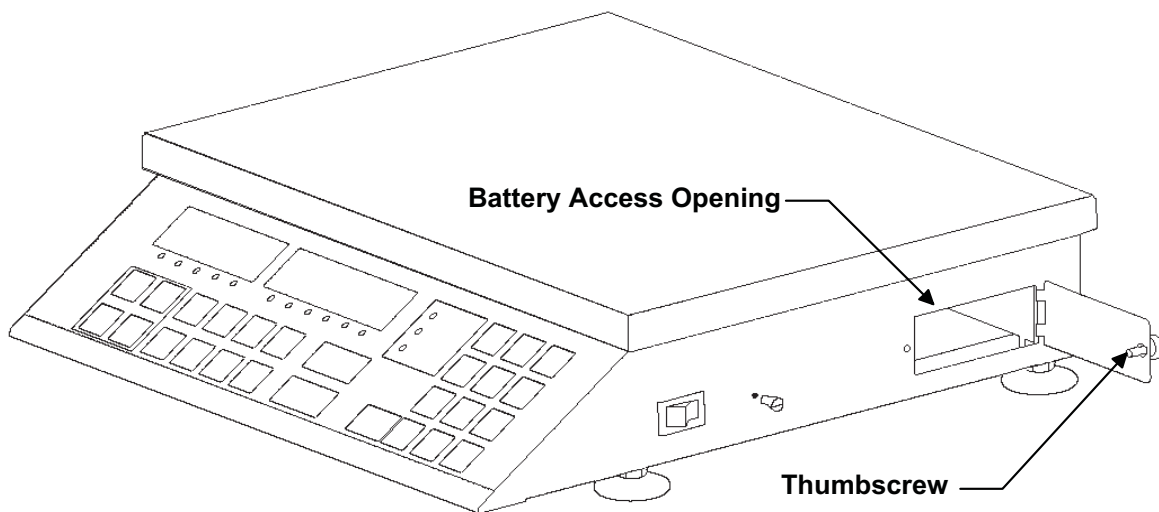

Figure No. 11
The Digital Counting Scale can operate from a readily available Sealed Lead-Acid Camcorder type battery (*not included*). If you wish to operate the scale from a battery, you must first obtain and install a CAM-350 Type 12 volt 2000 mAh (2.0 Ah) battery before operations can begin. The battery is contained inside the instrument and is easy to install. Access is via a removable panel on the right side of the scale (See Figure No. 11). The scale will operate with a "fully charged" battery for approximately ten (10) hours and is easily recharged with the scale's built-in charger.
4. While holding the cover open, slide the battery into the opening until you feel resistance and the battery is almost flush with the side panel of the scale (See Figure No. 11).